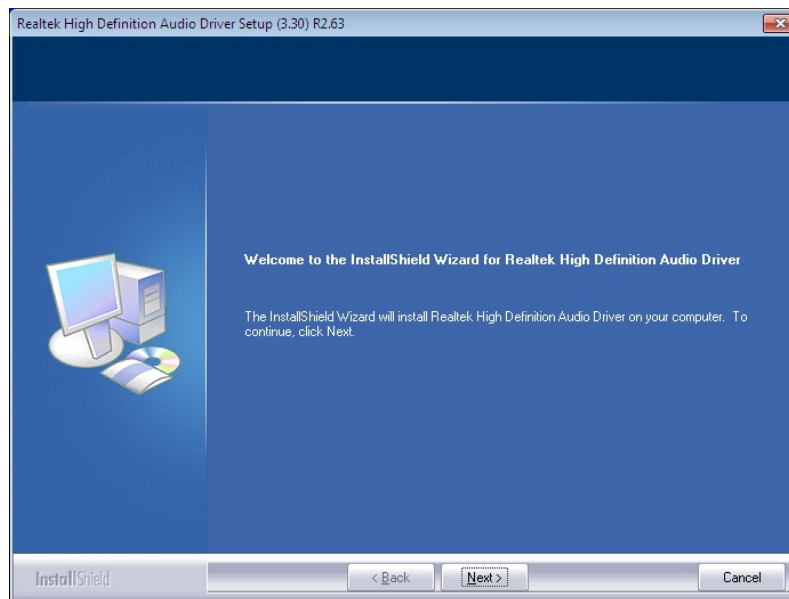

Figure 6-18: Audio Driver Welcome Screen
Step 6: The **Welcome** screen in **Figure 6-18** appears.